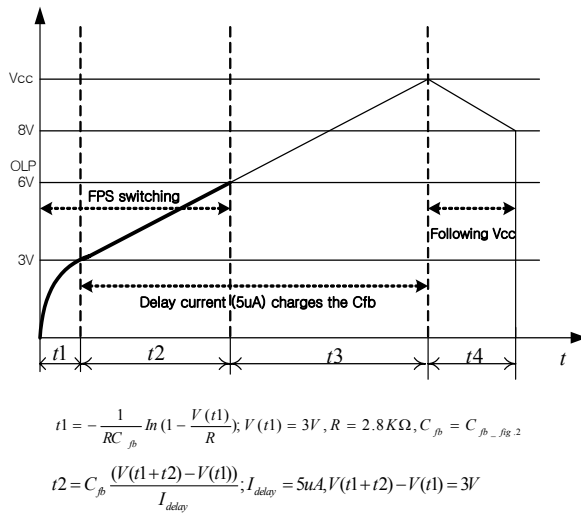

Figure 6. Over load protection
4.1 Over Load Protection (OLP) : Overload is defined as the load current exceeding a pre-set level due to an unexpected event. In this situation, the protection circuit should be activated in order to protect the SMPS. However, even when the SMPS is in the normal operation, the over load protection circuit can be activated during the load transition. In order to avoid this undesired operation, the over load protection circuit is designed to be activated after a specified time to determine whether it is a transient situation or an overload situation. In conjunction with the I_{pk} current limit pin (if used) the current mode feedback path would limit the current in the Sense FET when the maximum PWM duty cycle is attained. If the output consumes more than this maximum power, the output voltage (V_o) decreases below the set voltage. This reduces the current through the opto-coupler LED, which also reduces the opto-coupler transistor current, thus increasing the feedback voltage (V_{fb}). If V_{fb} exceeds 3V, the feedback input diode is blocked and the 5uA I_{delay} current source starts to charge C_{fb} slowly up to V_{cc} . In this condition, V_{fb} continues increasing until it reaches 6V, when the switching operation is terminated as shown in figure 6. The delay time for shutdown is the time required to charge